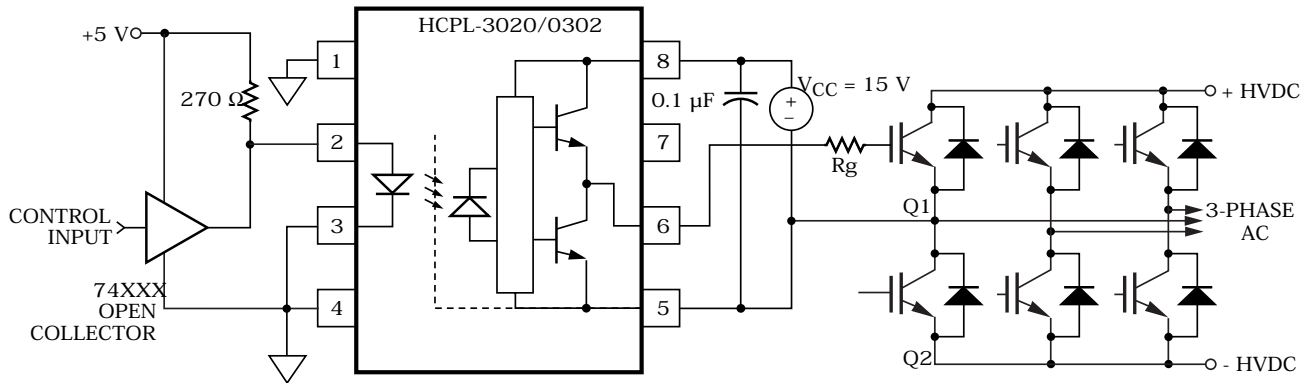
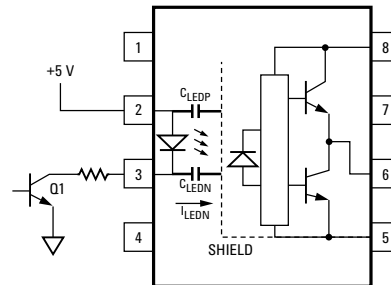

Figure 17. Recommended LED drive and application circuit for HCPL-3020 and HCPL-0302.
Figure 22. Not recommended open collector drive circuit.
To keep the IGBT firmly off, the HCPL-3020 and HCPL-0302 have a very low maximum V_{OL} specification of 1.0 V. Minimizing R_g and the lead inductance from the HCPL-3020 or HCPL-0302 to the IGBT gate and emitter (possibly by mounting the HCPL-3020 or HCPL-0302 on a small PC board directly above the IGBT) can eliminate the need for negative IGBT gate drive in many applications as shown in Figure 17. Care should be taken with such a PC board design to avoid routing the IGBT collector or emitter traces close to the HCPL-3020 or HCPL-0302 input as this can result in unwanted coupling of transient signals into the input of HCPL-3020 or HCPL-0302 and degrade performance. (If the IGBT drain must be routed near the HCPL-3020 or HCPL-0302 input, then the LED should be reverse biased when in the off state, to prevent the transient signals coupled from the IGBT drain from turning on the HCPL-3020 or HCPL-0302.
Step 1: Calculate R_g minimum from the I_{OL} peak specification. The IGBT and R_g in Figure 17 can be analyzed as a simple RC circuit with a voltage supplied by the HCPL-3020.
where $K_{I_{CC}} \cdot Q_g \cdot f$ is the increase in I_{CC} due to switching and K_{I_{CC}} is a constant of 0.001 mA/(nC*kHz). For the circuit in Figure 17 with I_F (worst case) = 10 mA, R_g = 57.5 Ω, Max Duty Cycle = 80%, Q_g = 100 nC, f = 20 kHz and T_{AMAX} = 85°C:
perturbations in the LED current during common mode transients and becomes the major source of CMR failures for a shielded optocoupler. The main design objective of a high CMR LED drive circuit becomes keeping the LED in the proper state (on or off) during common mode transients. For example, the recommended application circuit (Figure 17), can achieve $10 \text{ kV}/\mu\text{s}$ CMR while minimizing component complexity.
The open collector drive circuit, shown in Figure 22, cannot keep the LED off during a $+dV_{CM}/dt$ transient, since all the current flowing through C_{LEDN} must be supplied by the LED, and it is not recommended for applications requiring ultra high CMR₁ performance. The alternative drive circuit, which like the recommended application circuit (Figure 17), does achieve ultra high CMR performance by shunting the LED in the off state.